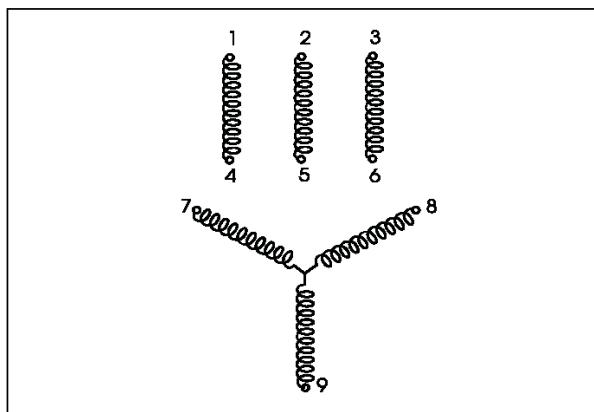

**Figure 8**
2. On Three phase motors having a single voltage range the resistance measured is actually **twice** that of an individual winding since the centers of 3 lead, **Wye** wound motors are internally connected and cannot be reached for measurement. See Figure 8.